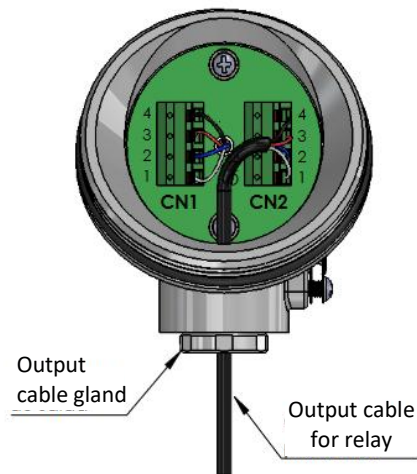

Figure 25 – Connecting cables to spring-loaded terminals
6. Adjust the cables according to Figure 25 and check that all the cables are securely connected to the spring-loaded terminals. Finally, close the cover firmly and tighten the output cable gland.